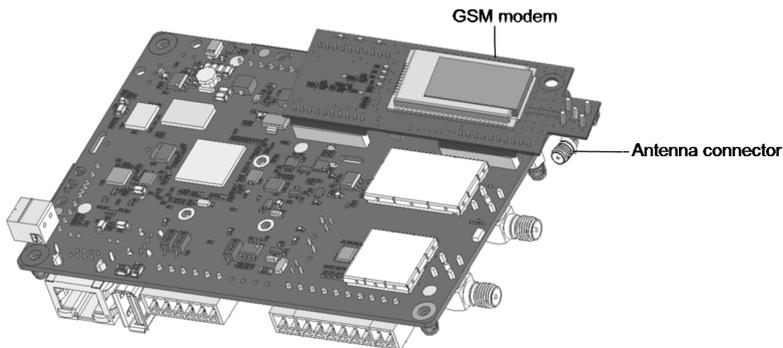

Figure 7: Installed Plug-in and antenna connector
8. Pull the excess cable into the inverter so that the cable can be attached to the inverter communication board (see *Figure 7*). The cable connects to the GSM Plug-in as described in the next section.
2. Locate the Plug-in in its place on the communication board, as shown in *Figure 7*. follow these guidelines:
3. Connect the antenna cable to the GSM Plug-in and tighten manually (as shown in *Figure 7*).